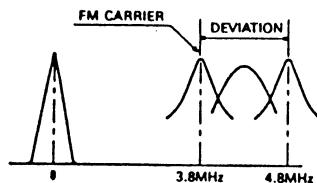

Fig. 9 FM Carrier & Deviation Adjustment
6. Adjust the deviation control (VR3201) so that the frequency is 4.8MHz $\pm$ 0.1MHz for the 1MHz deviation (See Fig.9)